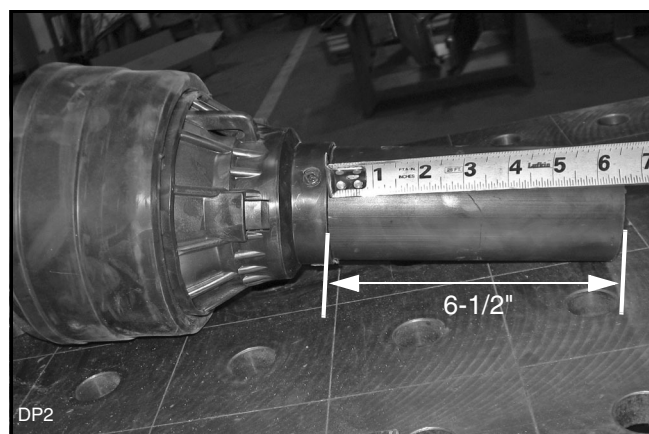

Figure 22. Front Drive Shield, Standard Drive Shown
3. Cut front half of drive shield to 6-1/2" for standard length drive as shown in Figure 22. Cut optional long drive shield to 13-1/4".